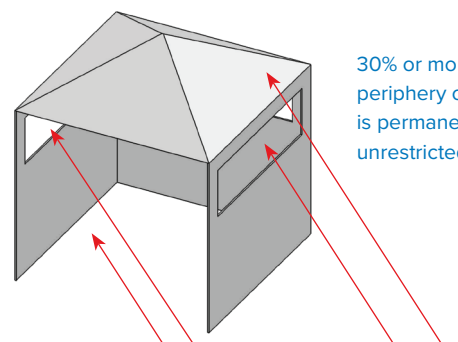

Fig. 4
- An appliance is considered to be outdoors if installed with shelter no more inclusive than within a partial enclosure that includes an overhead cover and three sidewalls, as long as 30% or more of the horizontal periphery of the enclosure is permanently open. (Fig. 4 & Fig. 5)